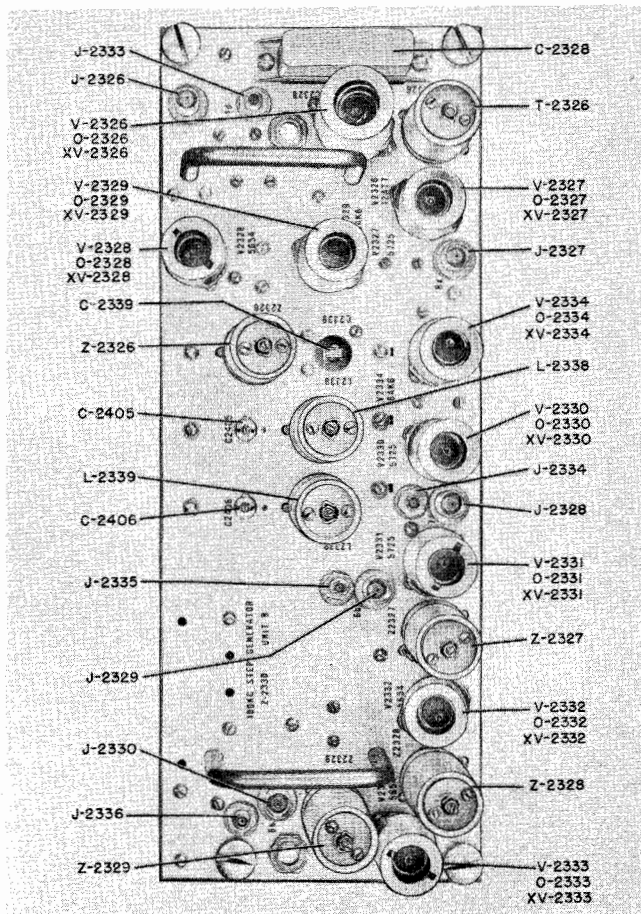

Figure 7-35. RFO, Unit 8 (Z-2330), Top View
(a) C-2339 ADJUSTMENT.—Whenever V-2327, V-2328, or V-2329 is replaced, variable capacitor C-2339 (figure 7-35) must be adjusted in the following manner:
(e) Z-2327, Z-2328, Z-2329 ADJUSTMENT.—The 27-28-mc filter adjustments are the top and bottom slugs of transformers Z-2327, Z-2328, and Z-2329 (figures 7-35 and 7-36).
Step 5. With maximum r-f output from the signal generator, adjust bottom slugs of Z-2327, Z-2328, and Z-2329 (see figure 7-35) for maximum voltage indication on the multimeter.
Step 6. Retune the signal generator to 27 mc and adjust the top slugs of Z-2327, Z-2328, and Z-2329 (see figure 7-35) for maximum voltage indication on the multimeter.